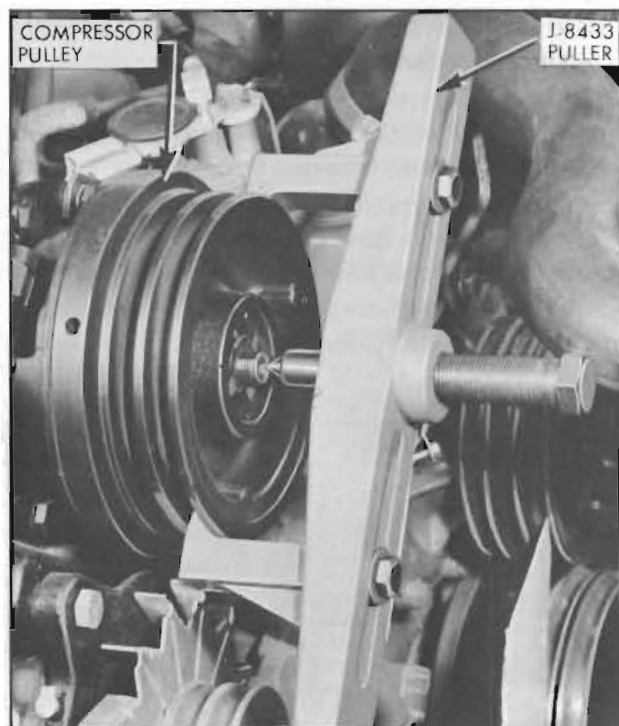

Figure 11-59—Removing Compressor Pulley (Compressor on Car)
3. Remove the pulley and ball bearing assembly with compressor pulley puller J-8433. Locate pointed end of puller bolt in end of compressor shaft and position jaws to engage groove of pulley. See Figure 11-59.